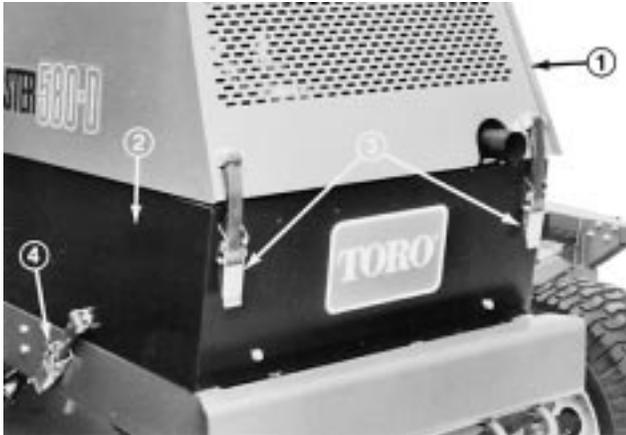

Figure 33
1. Unlatch and raise hood and prop it open. Unlatch and remove left side panel (Fig. 33). Make sure hood prop is secured in one of the mounting brackets on hood.
1. Unlatch and raise hood and prop it open (Fig. 33). Make sure hood prop is secured in one of the mounting brackets on hood. Unlatch and remove both side panels (Fig. 33).